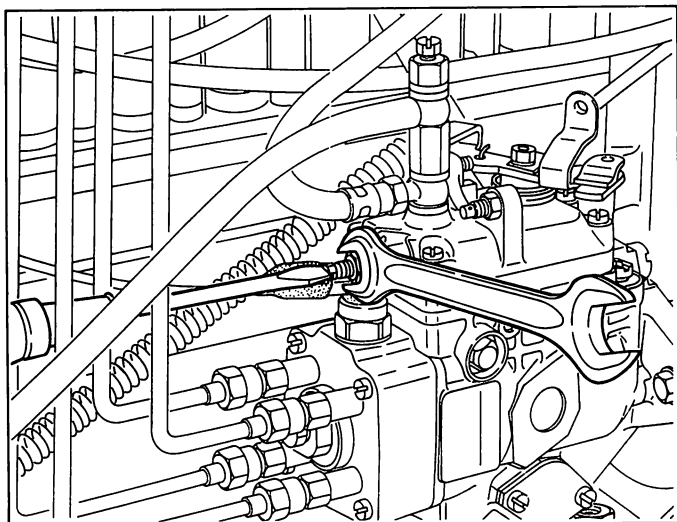

Fig. 106 Setting the full-load adjusting screw
2. Measure the injection quantity at the speed specified in the calibration data. If the injection quantity is not as specified, adjust the injection quantity using the full-load adjusting screw (88). Be sure to tighten the nut (90) before measuring the injection quantity. (Fig. 106)
If not as specified, adjust it using the full-load adjusting screw. (Refer to Fig. 106)